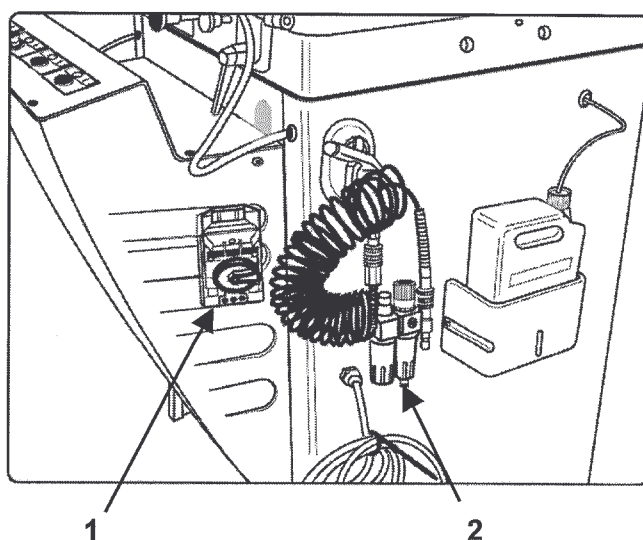

Fig. 07-01
7.1 ELEMENTI PER ALLACCIAMENTI ELETTRICO E PNEUMATICO (Fig. 07-01)